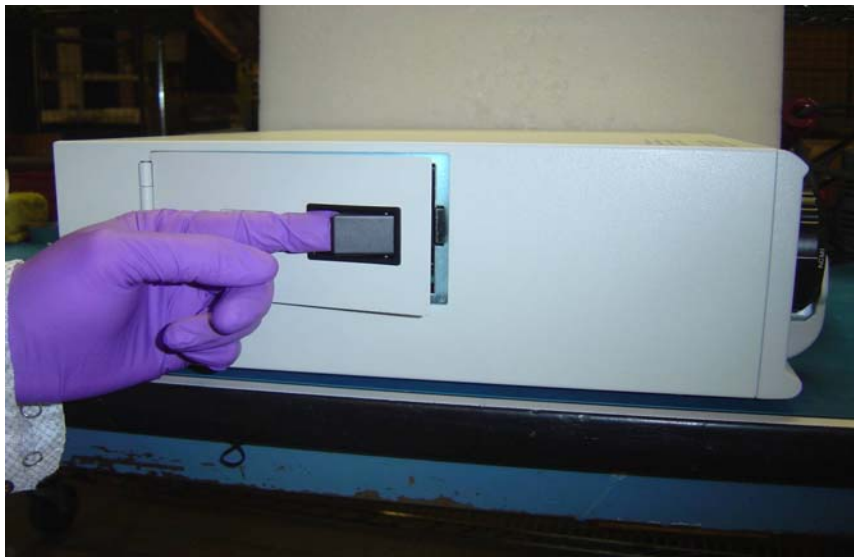

Figure 4
- 4 Unlatch and open the access door located on the side of the ProXenon 350 Surgical Illuminator – Figure 4.